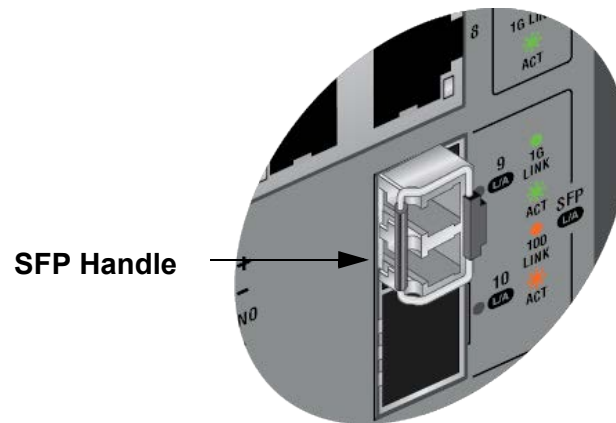

Figure 43. Verifying the Position of the Transceiver Handle
5. Verify the handle on the transceiver is turned to the right. Refer to Figure 43.